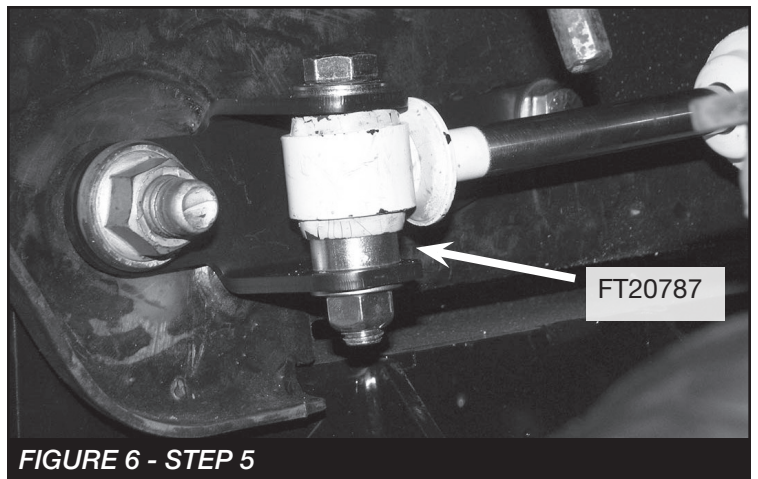

FIGURE 6 - STEP 5
5. Install the shaft end into the new bracket using the supplied FT20787 (Spacer) on the bottom and 1/2" X 3" Bolt and hardware. Torque to 106 ft-lbs. **SEE FIGURE 6**